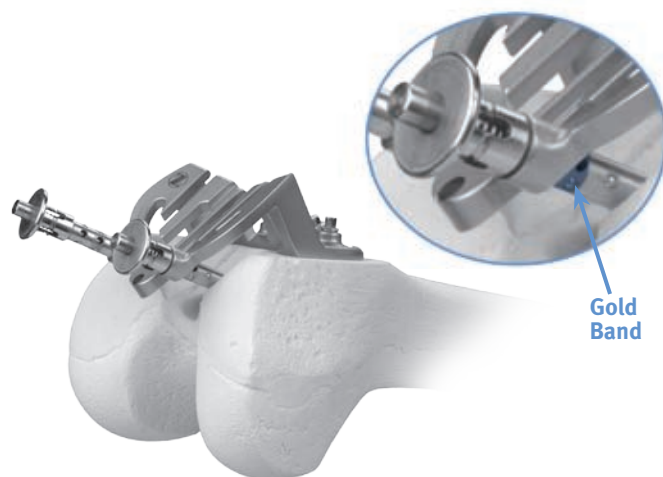

Fig. 39
- o Depress the button and push the lateral foot into its down or “Stabilize” position (gold band visible below the guide) (Fig. 39).